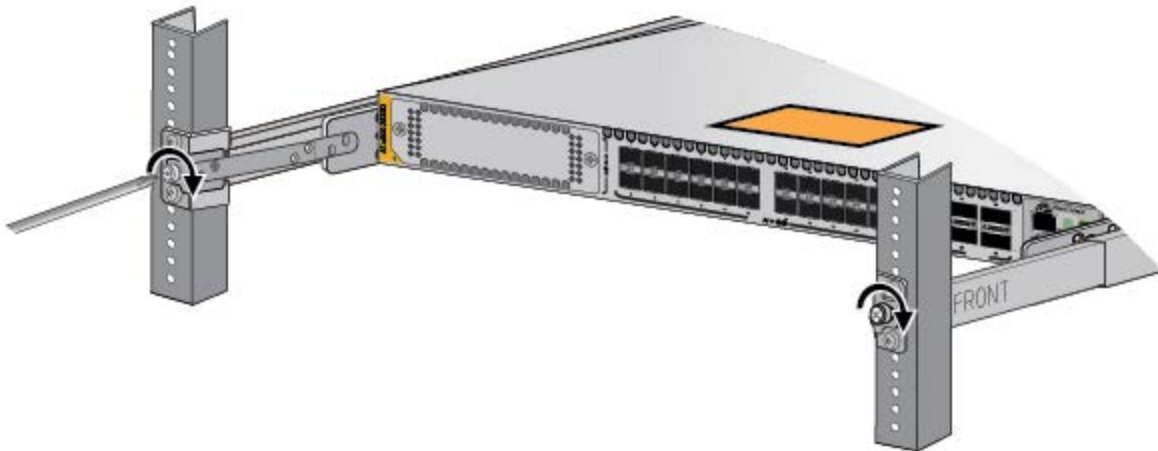

Figure 121. Tightening the Two Screws on the Fixed Brackets
4. Tighten the two screws on the fixed brackets to secure the switch to the equipment rack. Refer to Figure 121.